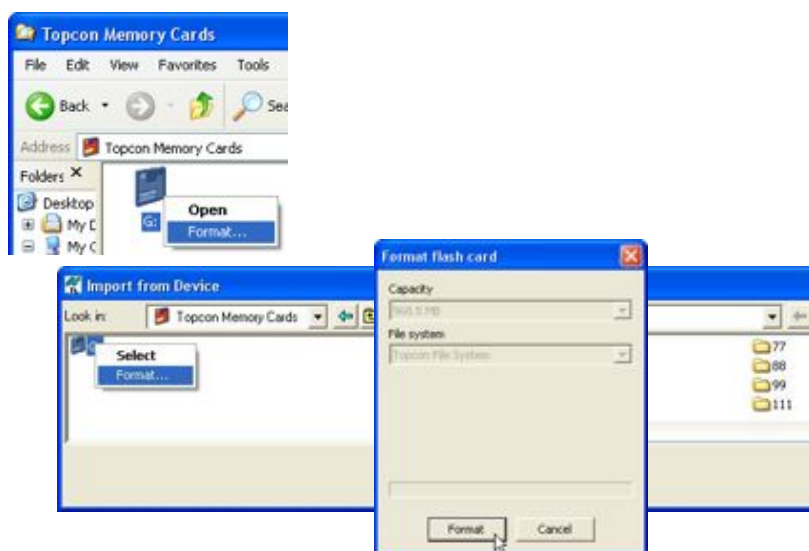

Figure 2-13. Format Memory Card
1. Navigate to the Memory Card device directory (Figure 2-13 on page 2-13).
2. Right-click the gray card icon and click **Format** to format the flash card for access by Topcon programs (Figure 2-13 on page 2-13).